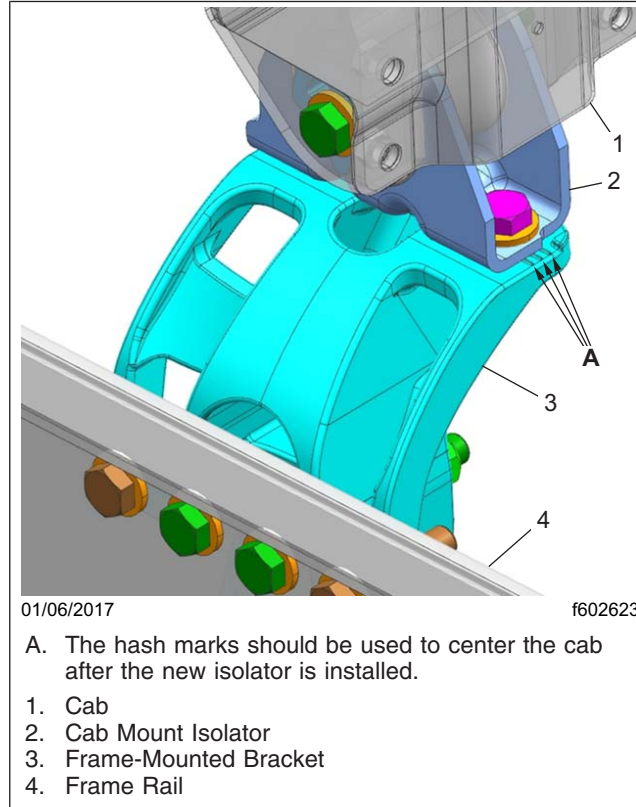

Fig. 3, Positioning the Cab Mount Isolator
6. Note the position of the isolator against the hash marks on top of the bracket. See Fig. 3.
1. Place a new cab mount isolator on the frame-mounted bracket, between the ears of the bracket on the cab underbody. Make sure that the stamped word 'OUTSIDE' is facing outboard, and that the position of the isolator against the hash marks on top of the bracket matches that of the old isolator. See Fig. 3.